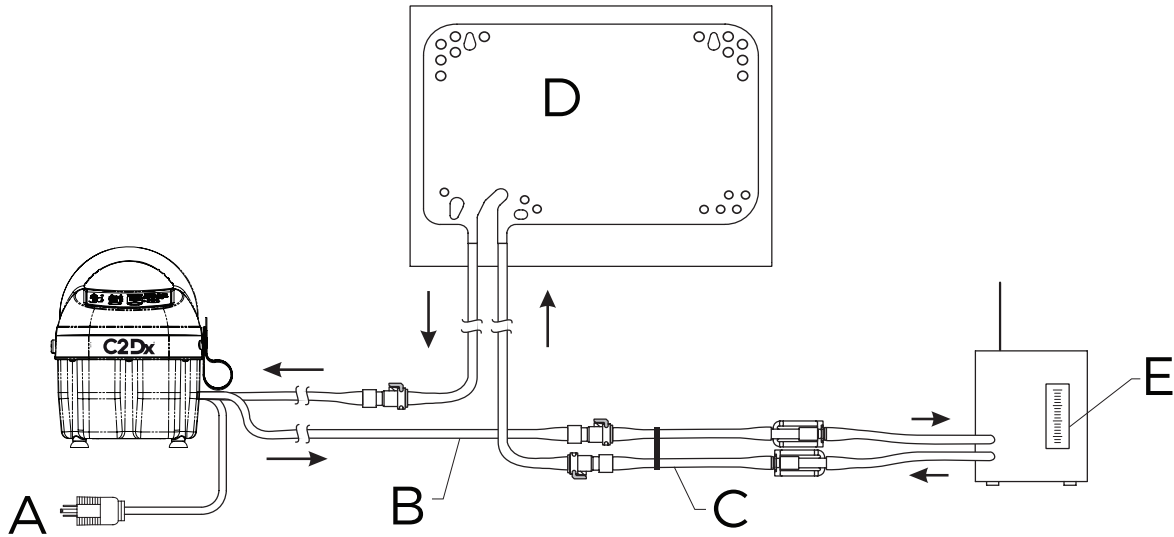

Figure 2: Functional check setup for Colder connector
1. Plug into a properly grounded outlet (A) (Figure 2 on page 17).
2. Fitting and tube closest to the front of the **T/Pump® Temperature Therapy Pump** (B).
3. Attach the Adapter hose assembly (C).
4. **Mul-T-Pad® Temperature Therapy Pad**, size 18" or 22": lay the pad flat and at the same level as the pump (D).
5. **TPT9**, 7 gph (26.5 lph) minimum. Read at top of the float (E).